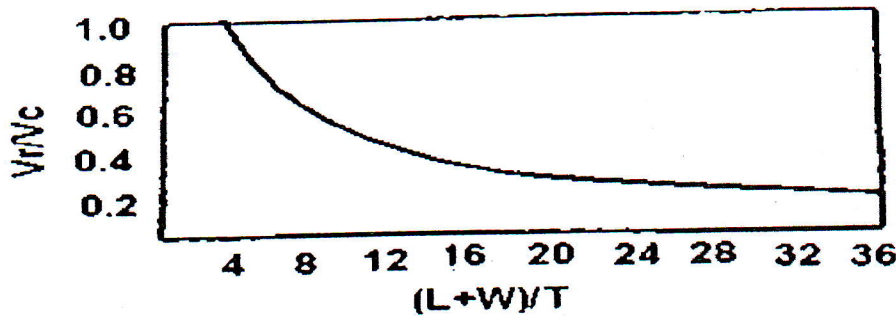

Fig.1
- Consider the casting to be in simplified form as shown in Fig. 1.